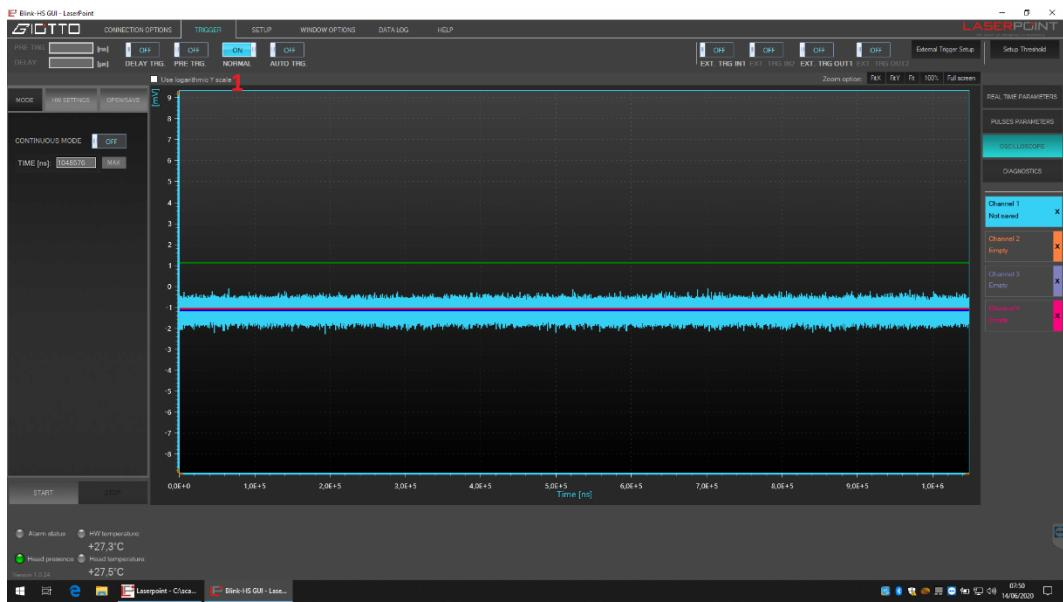

Figure 18
1. In Normal Trigger mode (**1, fig.18**) the HSM meter remains on hold and starts acquisition when pulses are greater than Trigger Start value (in mV)